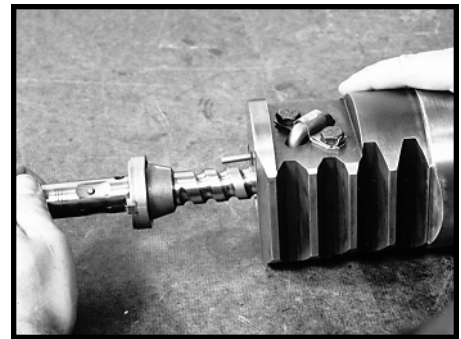

Figure 110
**WARNING: ROTATE THE WORM SHAFT FROM ONE END OF TRAVEL TO THE OTHER, TO MAKE CERTAIN THAT YOU HAVE INSTALLED THE BALLS PROPERLY. SEE FIGURE 110. IF YOU CANNOT ROTATE THE WORM SHAFT, YOU WILL HAVE TO REMOVE THE BALLS AND REASSEMBLE THEM. IF YOU INSTALL A GEAR ON A TRUCK WITH THE WORM SHAFT UNABLE TO ROTATE, THE GEAR WILL NOT FUNCTION CORRECTLY. DAMAGE MAY RESULT.**